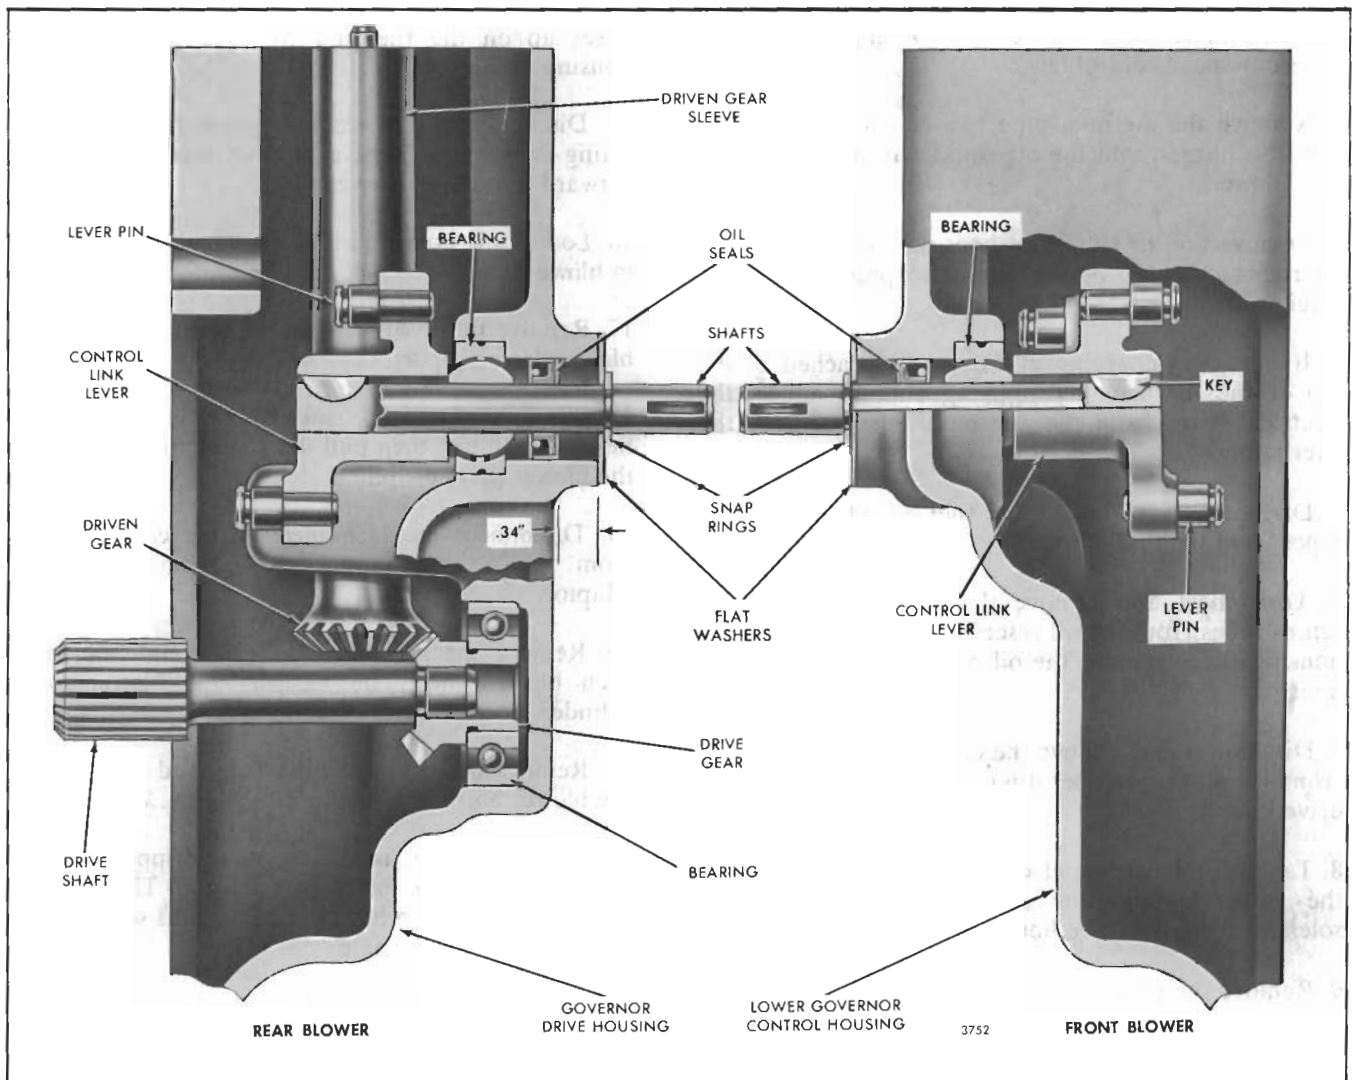

Fig. 10 - Governor Drive and Control Housing Assembly
The governor is driven by one of the blower rotors through a horizontal drive shaft and drive (bevel) gear and an integral driven (bevel) gear (Fig. 10). Each gear is mounted on a ball bearing and is contained in a drive housing that also serves as a front cover for the rear blower.
The shafts of the two control link levers (Fig. 10) are connected together by means of a common lever and cap assembly.
Refer to Figs. 10 and 15 and disassemble the governor drive assembly as follows:
- c. Support the inner face of the drive housing on two wood blocks on the bed of an arbor press. Place the 3/4" round bar stock on top of the oil seal and under the ram of the press, then press the oil seal into the housing until it is .340" below the outer face of the housing (Fig. 10).
Refer to Figs. 10 and 15 for the location of the various parts and assemble the governor drive as outlined below:
2. Lubricate the governor drive shaft bearing with engine oil, then insert the drive shaft, drive gear and bearing assembly straight into the bearing bore in the drive housing (Fig. 10).